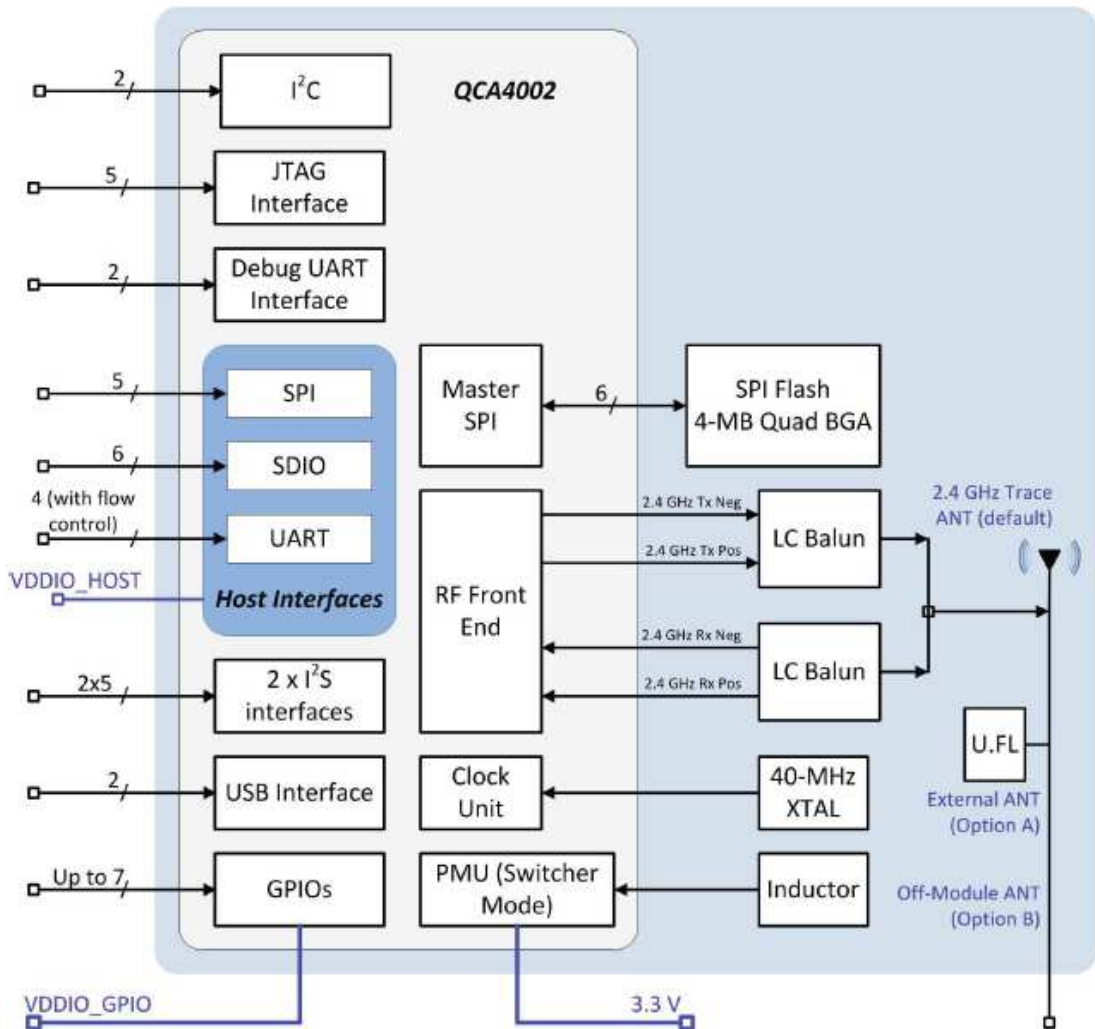

Fig. 1: Block Diagram.
3. Inside the module, there is a QCA4002 main chip which taking care the WLAN RF and BB function, also embedded a small processor which can do the encryption and TCP/IP off load. Only few external components are necessary such as XTAL and Flash. Block Diagram as Fig 1: